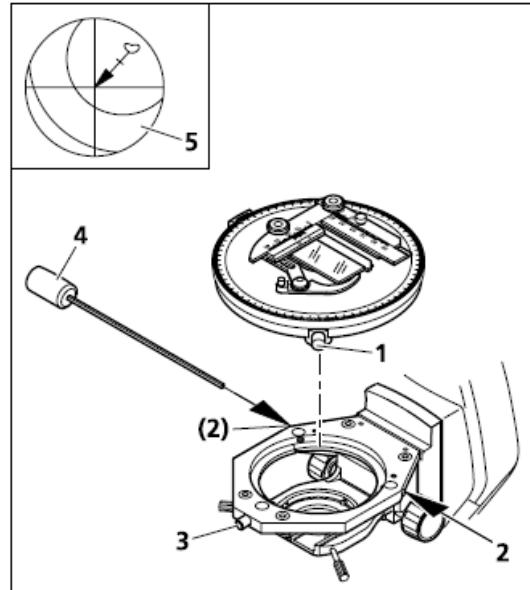

图. 3-13 调中旋转偏光载物台
All stages are factory-precentered, i.e. while rotating the stage the specimen feature set to the center will remain in the center. If the specimen feature moves off the center of the field of view (Fig. 3-13/5), while rotating the stage, the stage should be re-centered by following this procedure:
- | Loosen the stage clamping screw (Fig. 3-13/1) and screw cap on the stage carrier (Fig. 3-13/3).
- | Rotate the stage to determine the position of maximum offset of the specimen feature (Fig. 3-13/5, origin of arrow) from the center of the eyepiece reticle.
- | Reset the two centering screws on the stage carrier (Fig. 3-13/2) using a SW 1.5 socket wrench (Fig. 3-13/4) to move the specimen detail by half an arrow length in the direction of the crossline center. Check whether the specimen detail moves when the stage is rotated again; repeat the procedure, when required.
- | When centering is finished, re-tighten screw cap (Fig. 3-13/3).